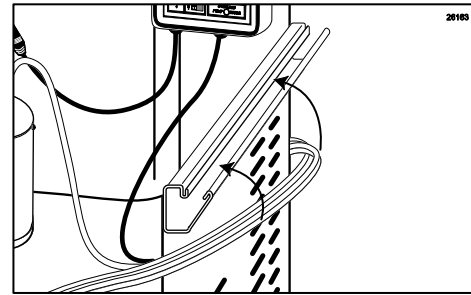

Figure 142
6. Place the 9-Tube Assembly, the Keypad Cable, and the Rotor Cable inside the Casing. (See Figure 142.)